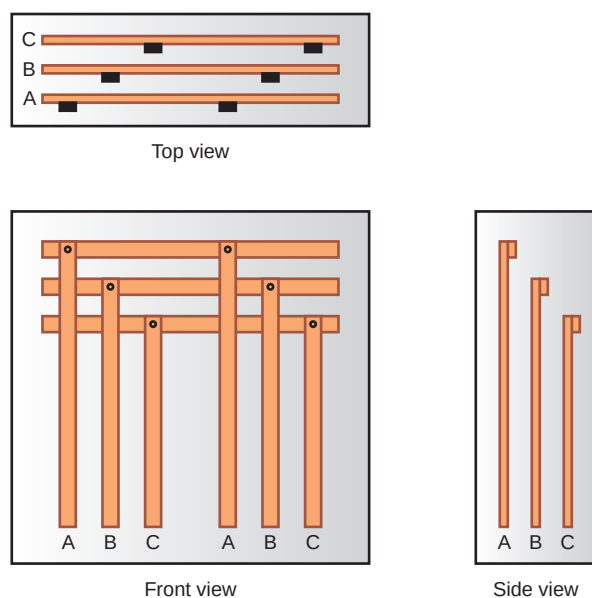

FIGURE 12-4 Phase arrangement requirements for switchboards and panelboards. (Delmar/Cengage Learning)
are on different phases. As a result, multiple protective devices can be installed to serve the 208-volt equipment. The numbering sequence shown in Figures 12-2 and 12-3 is the system used for most panelboards. Figures 12-4 and 12-5 show the phase arrangement requirements of *NEC* 408.3(E) and 408.3(F).